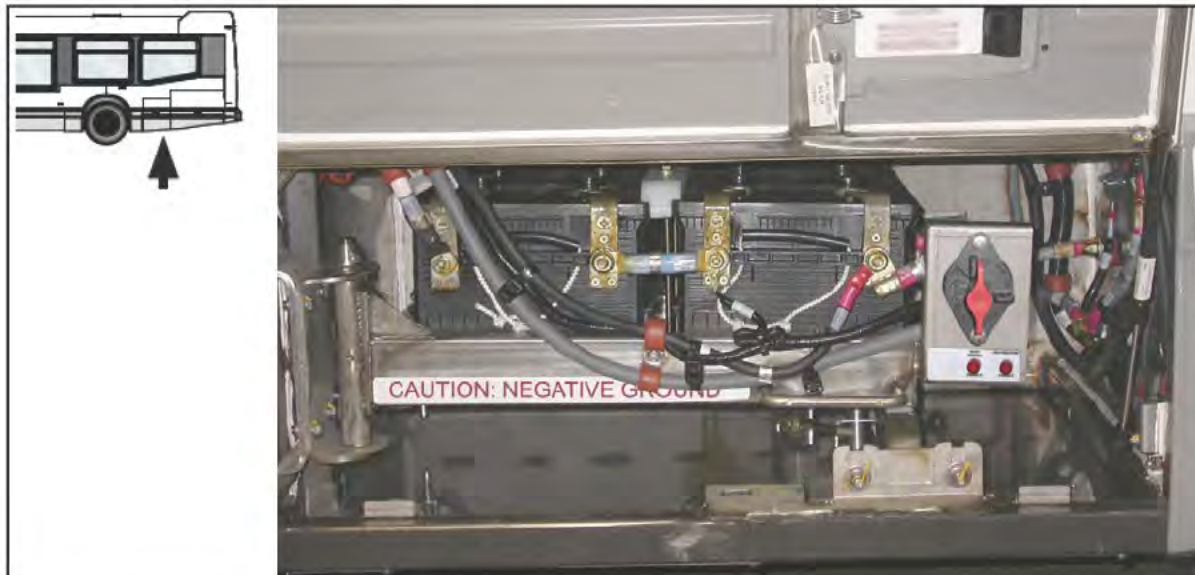

Figure 1 - Typical Battery Compartment Location
- 1.1. Locate and open the battery compartment door (see Figure 1).